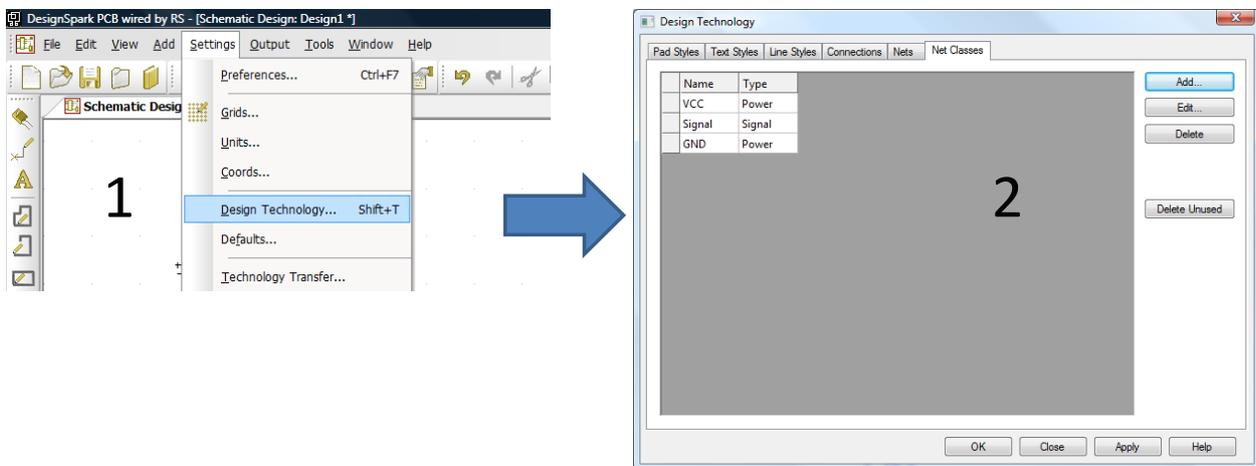

Figure 6-17: Generating Schematics – Design Technology
The Net Class in the PCB design contains track thicknesses and via styles, that will be used once routing is started. We therefore need to generate Net Classes as shown in Figure 6-17.
1. Select “Settings” - “Design Technology” (as shown in Figure 6-17 image 1) to open the “Design Technology” screen.
2. We start by generating these three simple Net Classes by selecting the “Add” button under the “Net Classes” tab (as shown in Figure 6-17 image 2).
8. Next we want to ensure that the line styles match those of the components, to ensure that the schematic has a uniform line width. Select “Settings” - “Design Technology” (as shown in Figure 6-17 image 1) to open the “Design Technology” screen.